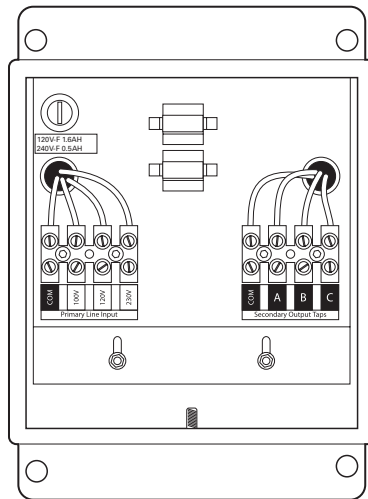

Figure 4. Wiring Connector Diagram
To change the fuse remove the lid to the fuse holder (refer to Figure 4) located inside the power supply and then install the new fuse. Store extra fuses (supplied) in the spare fuse holders.
To install the input power wires to the WCS1-4 power supply, refer to Figure 4 and do the following:
To install the output wiring to the camera, dome, or positioning system, refer to Figure 4 and do the following:
1. Refer to Table A and determine the output connection needed for your camera, dome, or positioning system. Refer to Figure 4, for the proper connector strip connections.